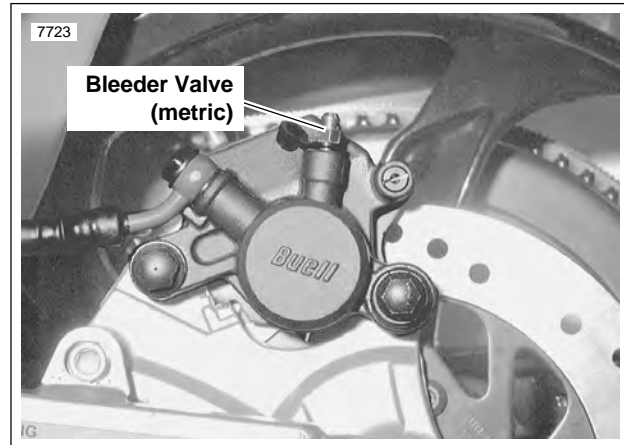

Figure 2-42. Rear Caliper Bleeder Valve (Metric)
1. See Figure 2-42. Drain brake fluid into a suitable container. Discard used fluids according to local laws.